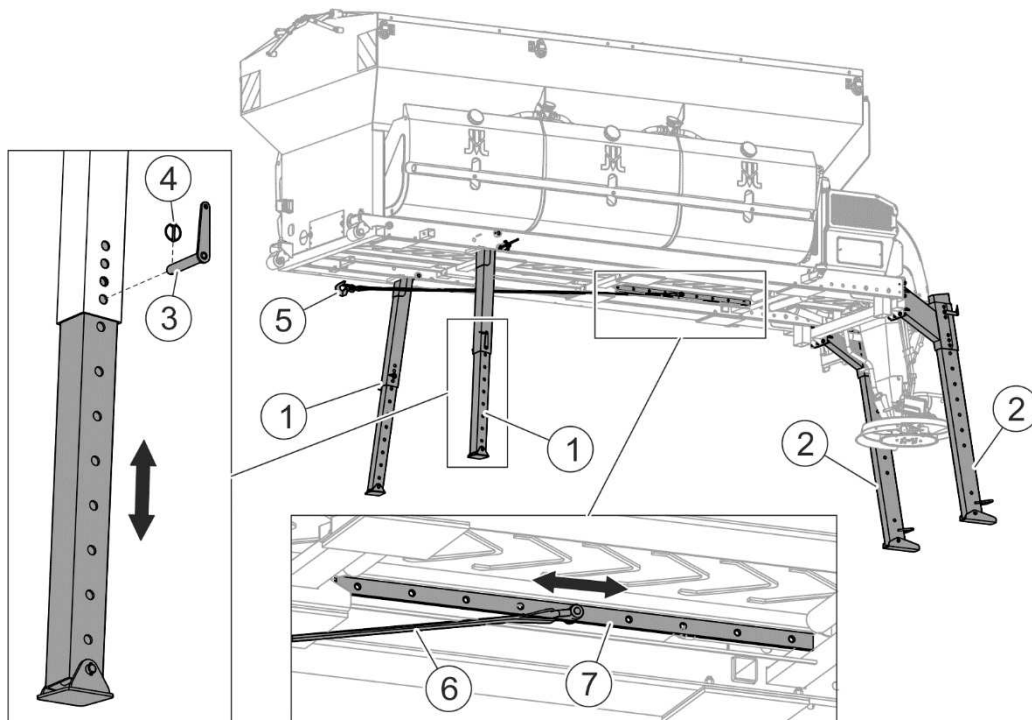

FIGURE 4.5 Parking stands
(1) - front parking stand; (2) - rear parking stand; (3) - pin, (4) - cotter pin, (5) - hook, (6) - belt sling, (7) - mounting
The spreader is equipped with parking stands (FIGURE 4.5). The height of parking stands should be adapted to the height of the carrying vehicle's load platform. Lock the parking stands in their positions using pins (3) and secure with cotter pins (4).
- Set the fixing point and attach the belt sling (6) ended with a hook (5) to a fixed and sufficiently strong element of the carrying vehicle (e.g. rear hitch) in order to prevent the machine from sliding off the platform (FIGURE 4.5).